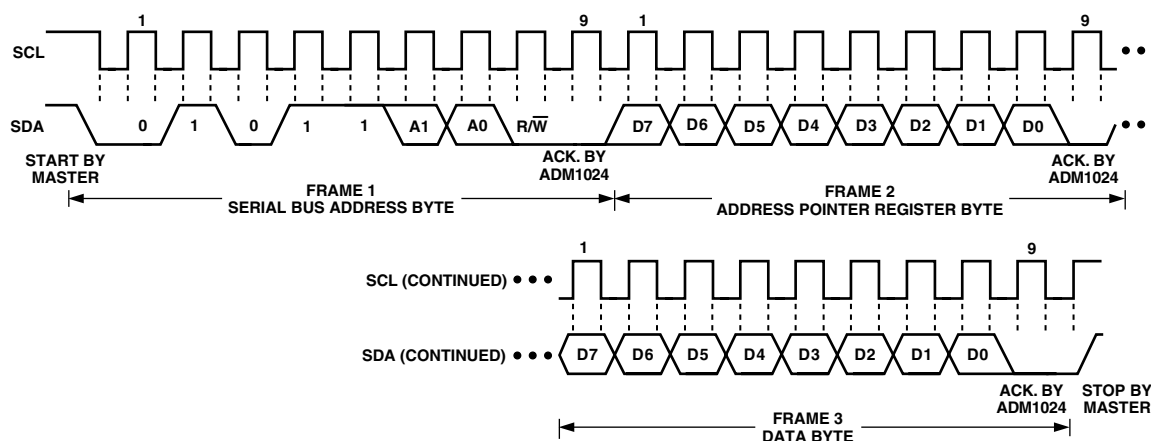

Figure 2a. Writing a Register Address to the Address Pointer Register, then Writing Data to the Selected Register
To write data to one of the device data registers or read data from it, the Address Pointer Register must be set so that the correct data register is addressed, then data can be written into that register or read from it. The first byte of a write operation always contains an address that is stored in the Address Pointer Register. If data is to be written to the device, the write operation contains a second data byte that is written to the register selected by the address pointer register. This is illustrated in Figure 2a. The device address is sent over the bus followed by  $R/\overline{W}$  set to 0. This is followed by two data bytes. The first data byte is the address of the internal data register to be written to, which is stored in the Address Pointer Register. The second data byte is the data to be written to the internal data register.
- In Figures 2a to 2c, the serial bus address is shown as the default value 01011(A1)(A0), where A1 and A0 are set by the three-state ADD pin.